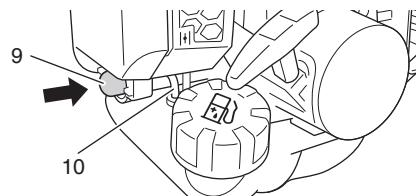

Fig. 9
- (2) Push priming bulb (9) several times so that fuel flows through return pipe (10). (Fig. 9)